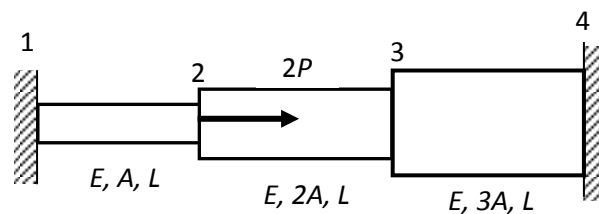

Figure 7 / *Rajah 7*
5. (a) Write down the element stiffness matrices and global matrix for the three bars assembly which is loaded with force $2P$, and constrained at the two ends in terms of E , A and L as shown in **Figure 7**.